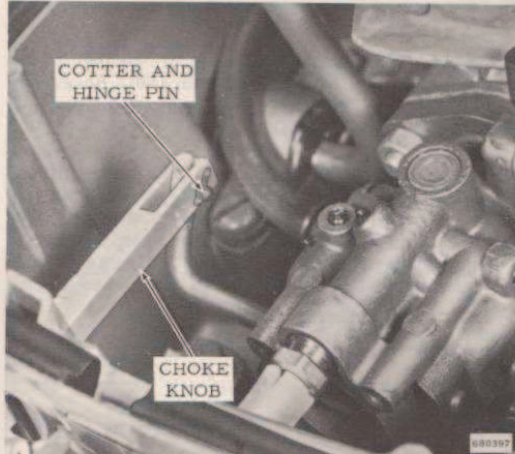

Figure 3-2. Remove Choke Knob
- b. Pull off high and low speed knobs. Remove cotter and hinge pin to remove choke knob. See Figure 3-2.